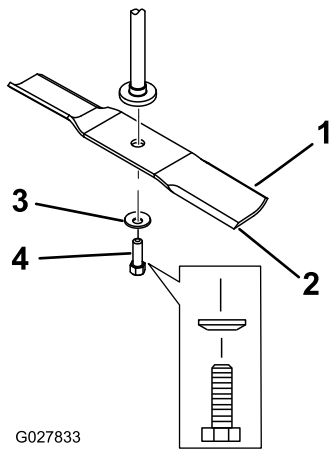

Figure 51
- Remove the blade bolt, the curved washer, and the blade from the spindle shaft (Figure 51).
1. Install the blade onto the spindle shaft (Figure 51).
2. Install the the curved washer (cupped side toward the blade) and the blade bolt (Figure 51).